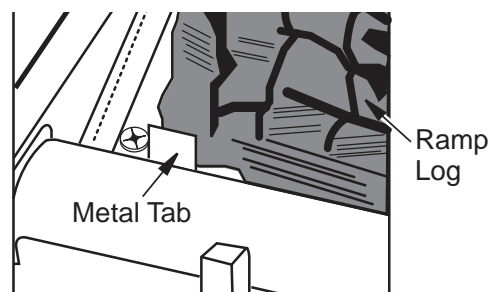

Figure 23 - Installing Log Set
- The log must sit flat on the black sheet metal and behind the left metal tab as shown in **Figure 23**.